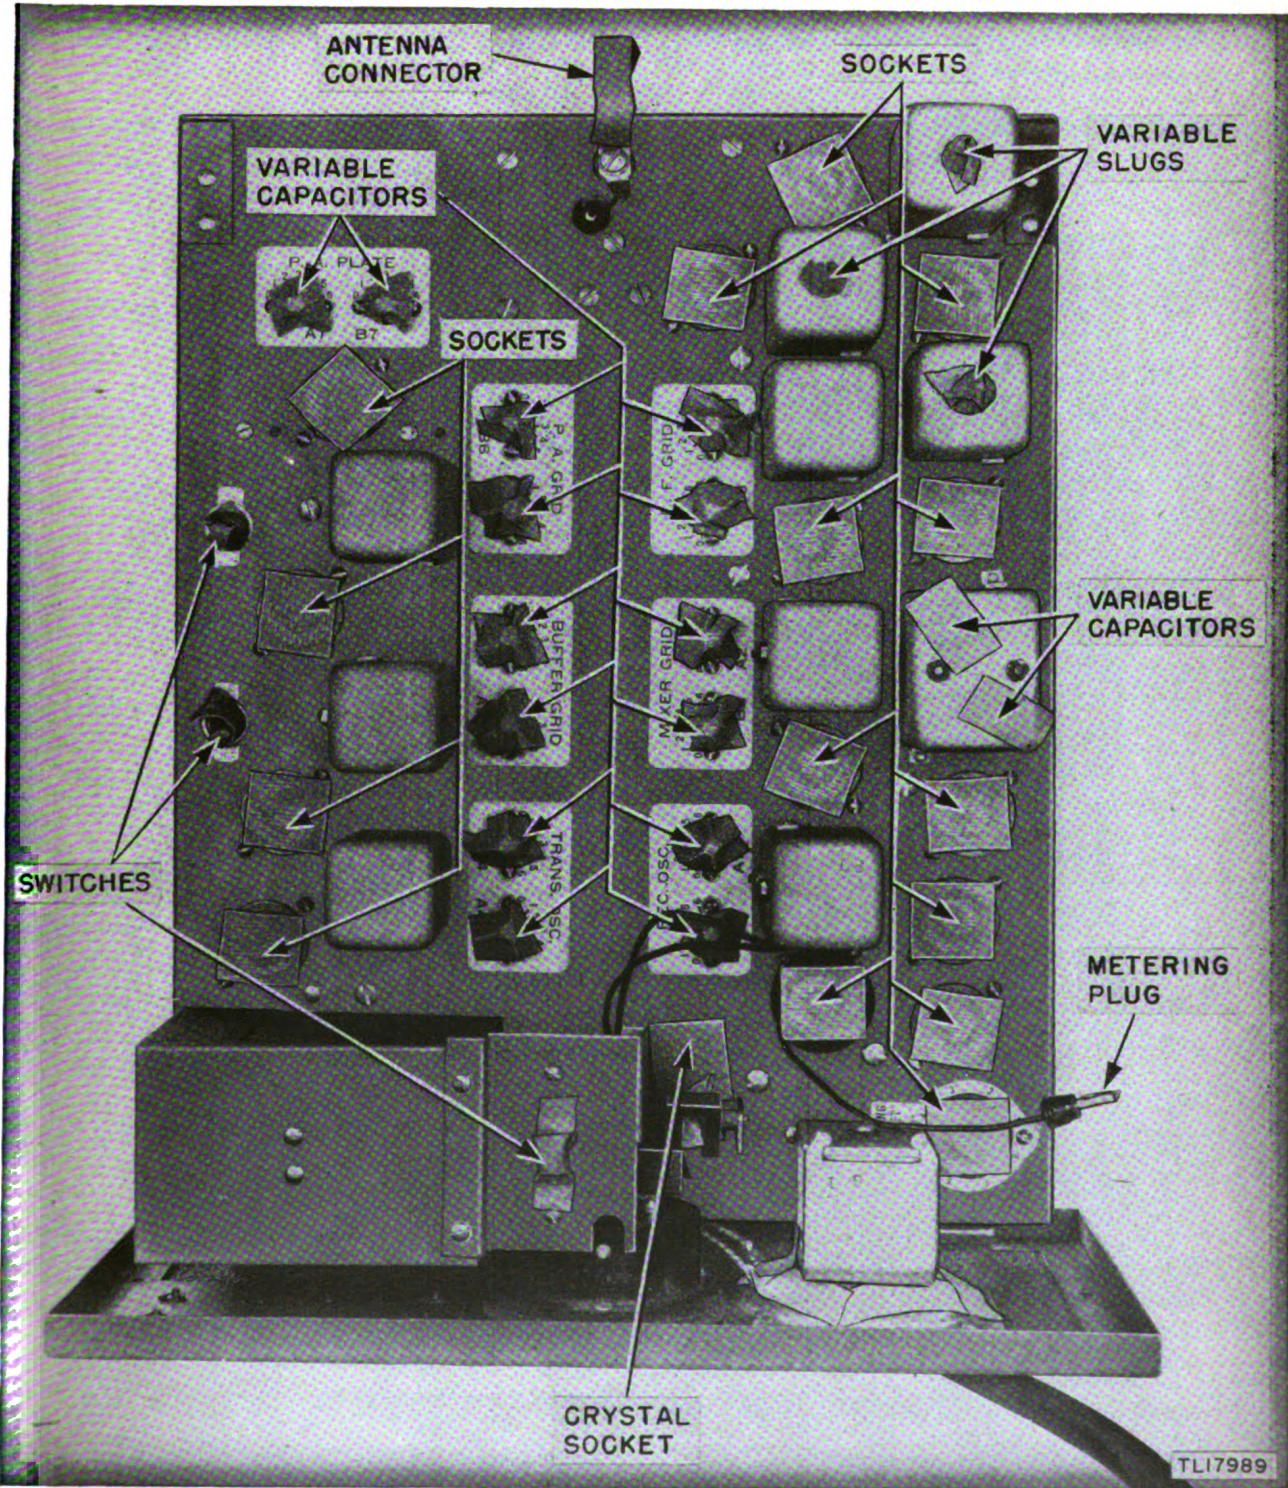

Figure 43. Radio Receiver and Transmitter BC-659-( ), top view of masked chassis
(8) Remove pyralin plates from REC. OSC., MIXER GRID, R-F GRID, P-A GRID, BUFFER GRID, TRANS. OSC., AND P-A PLATE.
(9) Remove the fiber insulating paper from tops of T2, T3, T4, and T5. Process separately.
(10) Unscrew three screws holding bakelite strip on side of chassis. When loose, move strip away from side of chassis, so that inside of strip can be treated.
(11) Thoroughly clean all dirt, dust, rust, fungus, oil, and grease from the equipment to be processed.
c. MASKING (figs. 43 and 44). (1) Mask battery plug pins.
(2) Mask antenna contacts.
(3) Mask metering socket, tube sockets, and crystal sockets.
(4) Mask meter lead lugs.
(5) Mask ends of wires that connect to voice coil lugs.
(6) Mask transformer trimmers T2, T3, T4, and T5.